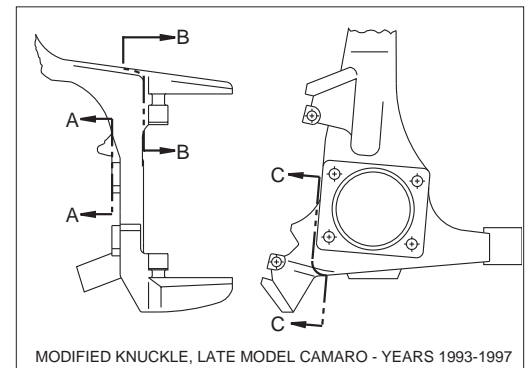

Figure 2. Knuckle Modifications
- Make sure this is the correct kit to match the exact make and model year of the vehicle's spindle (i.e., brackets for a 1990 Camaro spindle will not fit a 1997 Camaro spindle). On some models of disc brake spindles there are "ears" where the OEM calipers were mounted and these "ears" interfere with the assembly of the Wilwood disc brake kit. See Figure 2 for spindle modification instructions.
- The following knuckle modifications should be performed by a qualified machinist. Refer to Figure 2. Only one view of the steering arm/knuckle is shown, but the modifications need to be performed on both sides.